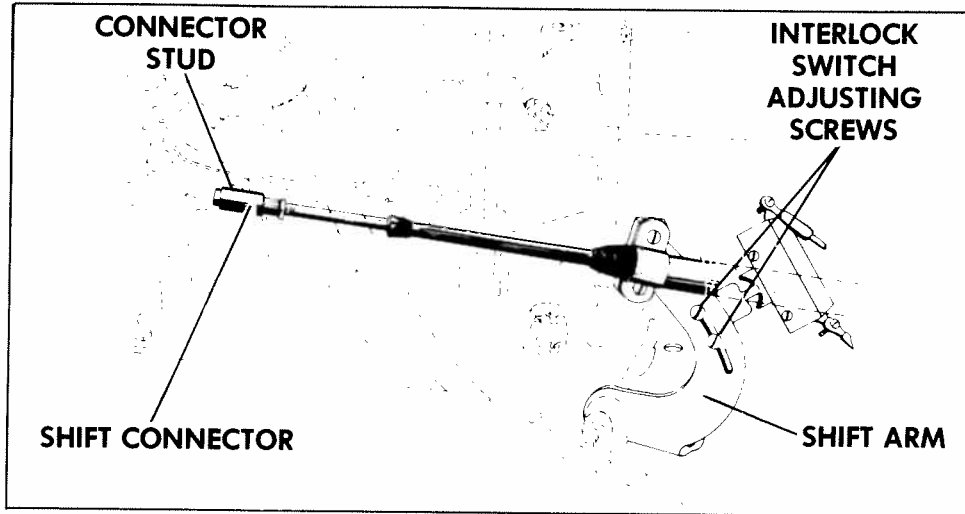

FIGURE 4
1. Disconnect shift connector from connector stud on side of powerhead. (See Figure 4.)